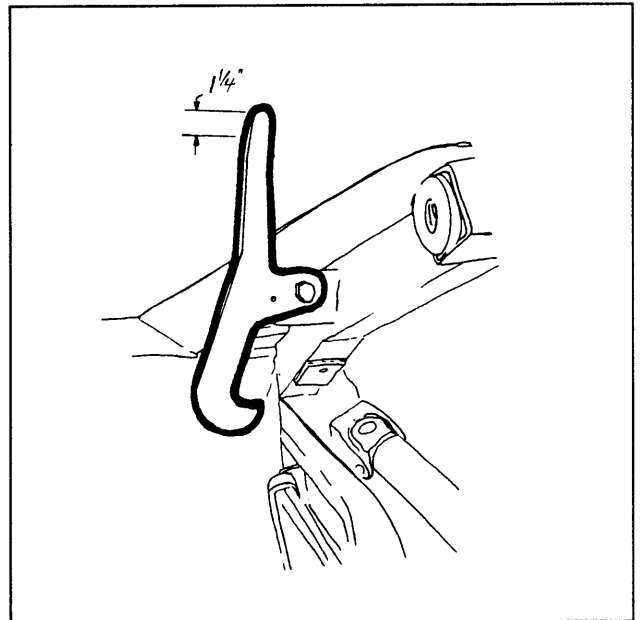

Figure 2
3. Take the mid-deck safety arms and remove the hand grips. Cut off the top 1 1/4" of the arms. Slide the grips back onto the arms, then reattach the arms to the unit. (see Figure 2)